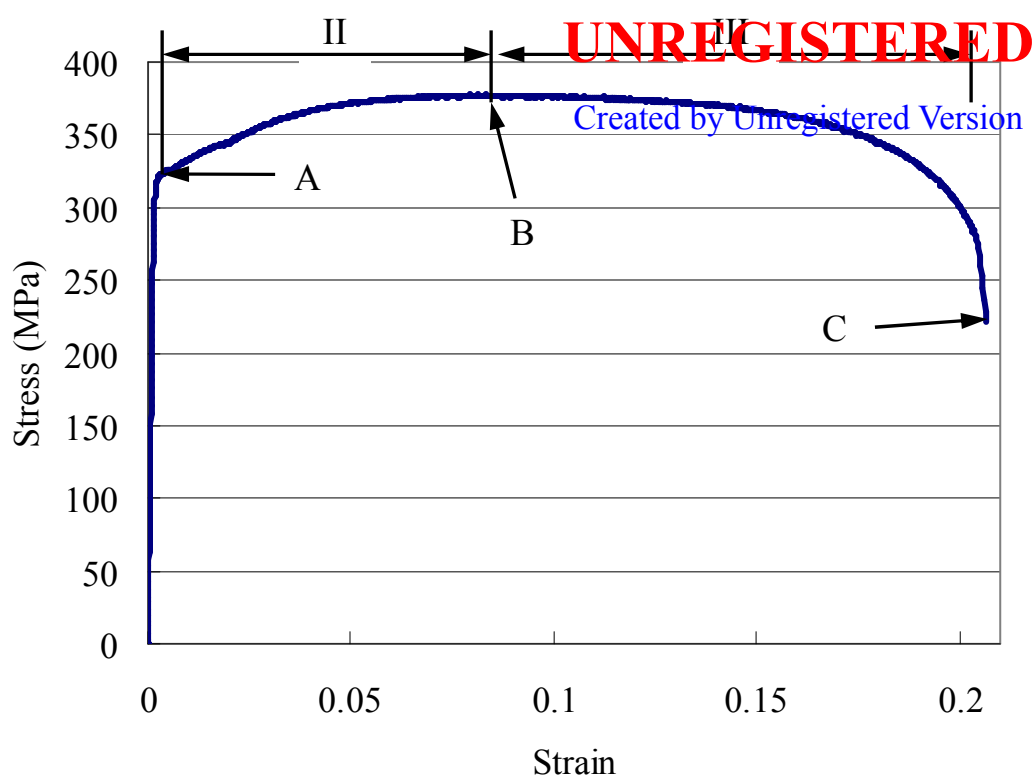

Figure 1
Problem # 01 A tensile test is conducted on an unknown material and the stress-strain curve is shown in Figures 1 and 2. The test specimen after failure is shown in Figure 3. Try to answer the following questions:
- Please explain the physical meaning of the curve based on the specific regions I, II, III and the specific points A, B, C shown in Figures 1 and 2. (15%)